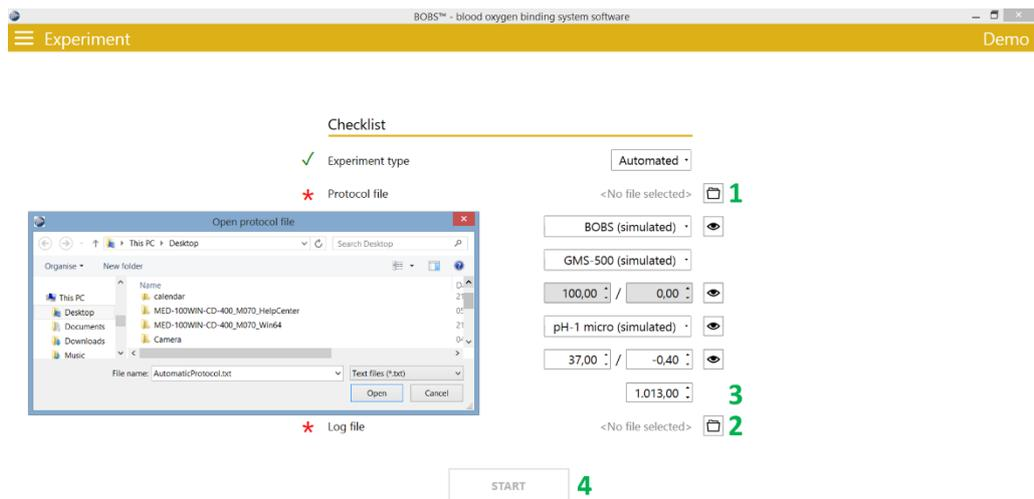

Figure 24: Automatic experiment menu
2. Load the protocol file (1, Figure 24)
3. Load the protocol file (1, Figure 24)
4. Choose a location for your log file (2, Figure 24).
5. Set the atmospheric pressure (3, Figure 24).
6. Start the experiment (4, Figure 24).